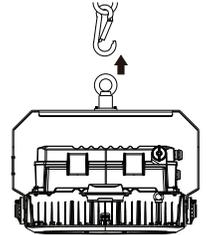

Fig. 21
4. Attach eyebolt to hook (not provided, Fig. 21).